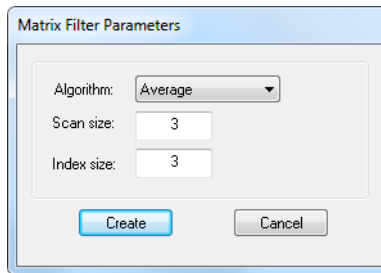

Figure 7-59 The Matrix Filters Parameters dialog box
- a) Set **Algorithm** to **Average**, **Minimum**, or **Maximum**. See Figure 7-59 on page 400.